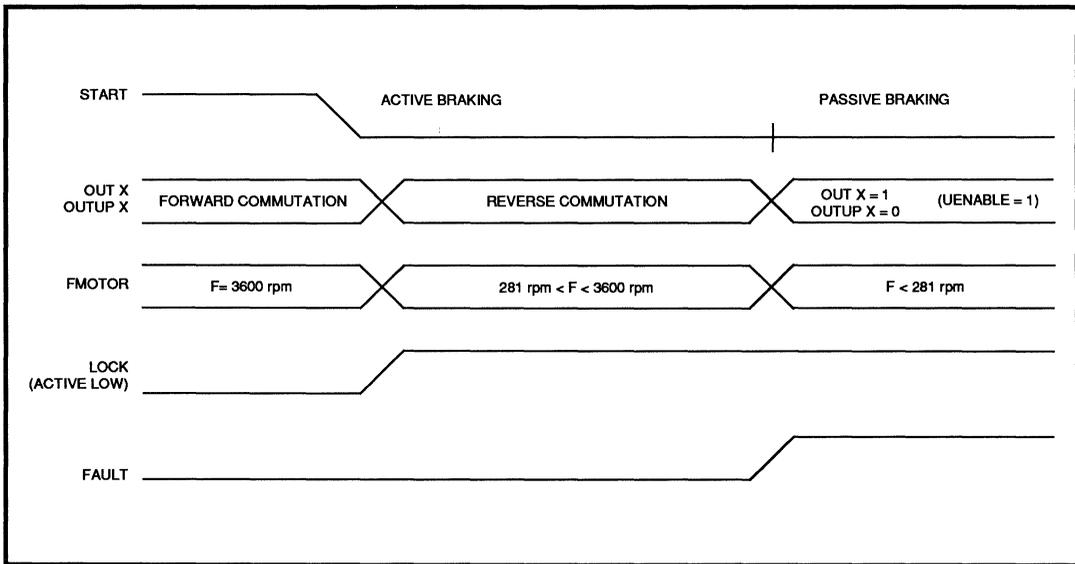

FIGURE 3: ACTIVE BRAKING SEQUENCE
- (4) Reverse shutdown speed. During active braking ($START=0$) the HALL sensor's phasing is changed to apply a reverse torque to the motor until the motor speed drops below the reverse shutdown speed at which time the drivers turn off to deny power to the motor and FAULT goes high. If UENABLE is high (non-center tapped motor) the device will perform passive braking after the motor speed drops below the reverse shutdown speed by enabling the lower drivers, OUTX, to dissipate any remaining coil energy. The upper drivers OUTUPX are off. (See Figure 3.)